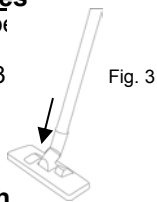

Fig. 3
- Push the extension tube into the carpet / floor brush as shown in Fig. 3